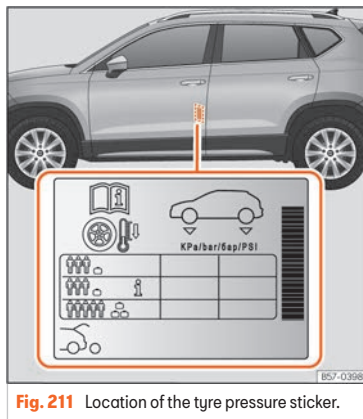

Fig. 211 Location of the tyre pressure sticker.
- Adjust tyre pressure to the load being carried by the vehicle >>> Fig. 211.
The values of the tyre pressure are shown on the sticker label located on the read frame of the front left door >>> Fig. 211.
The tyre pressure must be adjusted according to the load the vehicle is carrying. If the vehicle is going to be fully loaded, increase the tyre pressure to the maximum load value shown on the sticker label >>> Fig. 211.
In the case of a minimised temporary spare wheel (125/70 R16 or 125/70 R18) inflate to a pressure of 4,2 bar as indicated on the tyre pressure label >>> Fig. 211.
Depending on the vehicle, tyre pressure can be adjusted to medium load to improve driving comfort [tyre pressure **i** >>> Fig. 211]. When driving with comfort tyre pressure fuel consumption may increase slightly.
- The driver is responsible for ensuring that all of the vehicle tyres are correctly inflated to the right pressure. The recommended tyre pressure is indicated on the label >>> Fig. 211.
- Tyre pressure should be that indicated on the label when the tyres are cold at all times >>> Fig. 211.